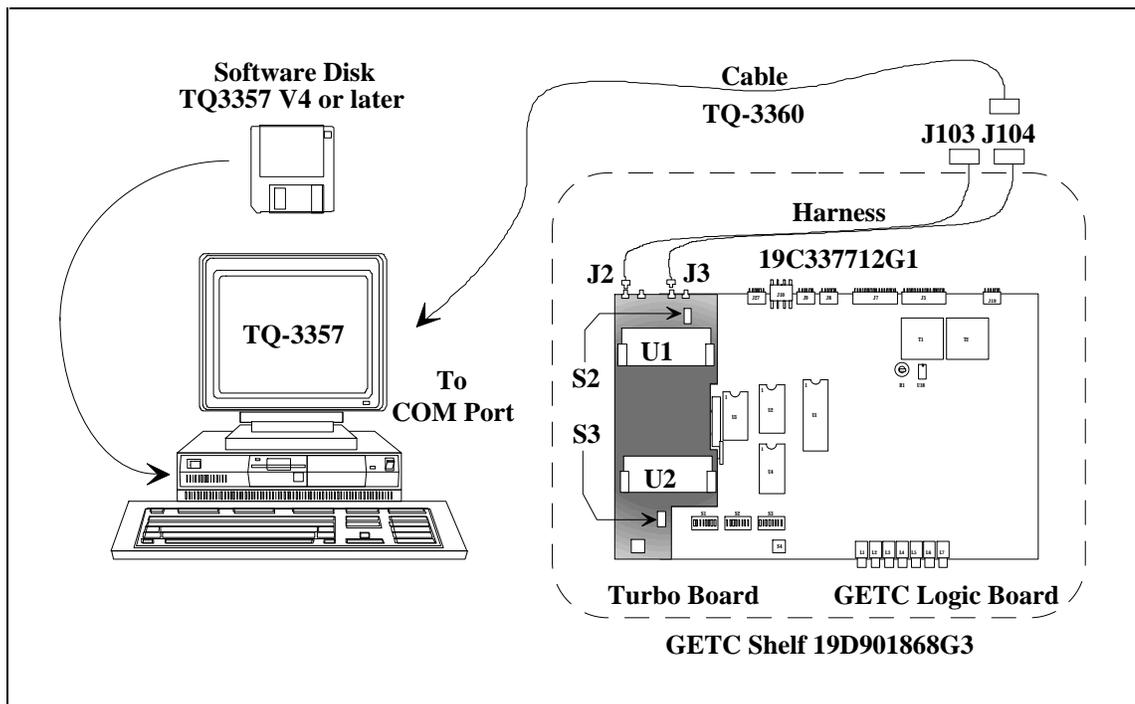

Figure 7 - System Hook-Up Using J104
1. Connect one end of the serial programming cable (TQ-3360) to the computer. Connect the other end of the cable to the GETC Shelf connector J104. See Figure 7.
2. Move Switch S2 on the Turbo Board to the front placing the GETC into the Personality Programming mode. See Figure 7.